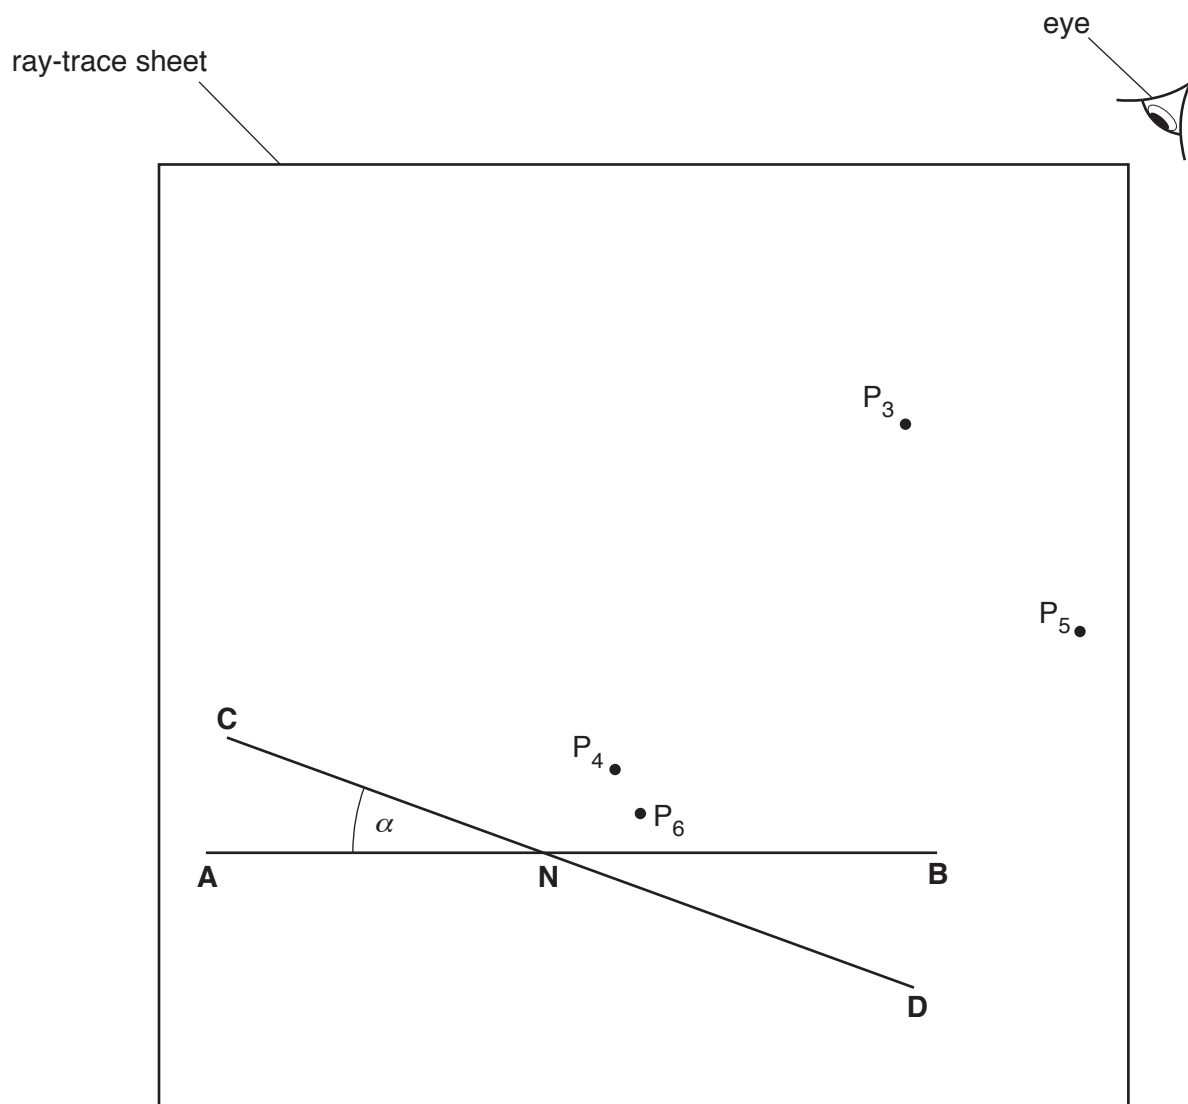

Fig. 3.1
Her ray-trace sheet is shown in Fig. 3.1.
- (a) (i) Measure and record in Table 3.1 the angle  $\alpha$  between **AN** and **CN**, as shown in Fig. 3.1. [1]
- (iii) Two pins  $P_1$  and  $P_2$  are placed on line **LN**, a suitable distance apart for ray tracing. On Fig. 3.1, label suitable positions for  $P_1$  and  $P_2$ . [1]
- (b) The student places the reflecting surface of a plane mirror on line **CD** and views the images of  $P_1$  and  $P_2$  from the direction indicated by the eye in Fig. 3.1.
- (c) The student moves the mirror to a line **EF** at an angle  $\alpha = 35^\circ$  to **AN**. Line **EF** is not shown in Fig. 3.1.